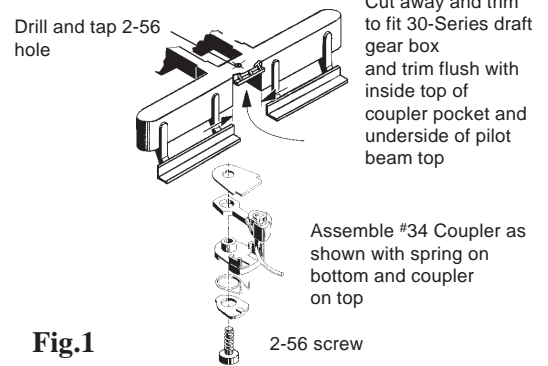

Fig.1
1. To mount #34 Coupler to pilot, you will need to modify loco coupler pocket opening slightly to fit the width of the 30-Series Draft Gear Box and trim opening top flush with bottom of inside of pilot beam. Drill and tap existing hole for 2-56 threads. Hold #34 coupler assembly together by using a tiny amount of glue placed along seams only. Place coupler assembly from the bottom into trimmed coupler pocket opening. Place 2-56 acetal plastic screw through coupler assembly into hole and tighten until snug against the pilot deck. Trim off screw flush with top of deck. See Fig.1.